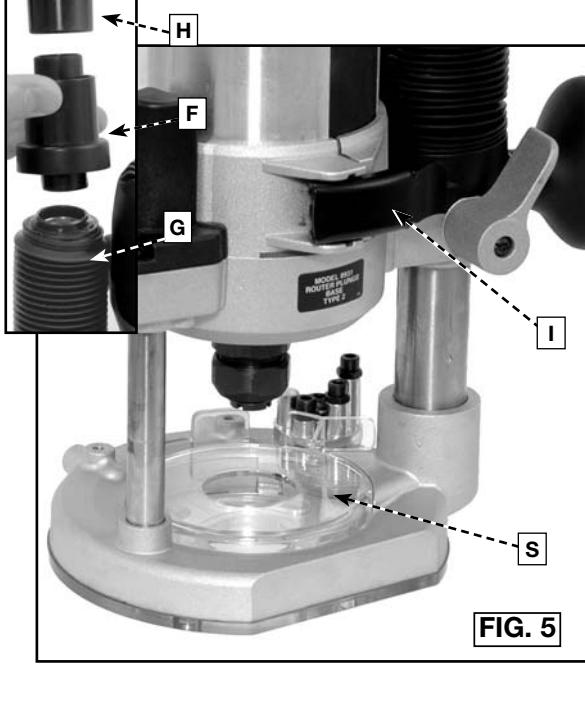

FIG. 5
- Open the clamp (I) Fig. 5 and set the motor in the base.
- Close the clamp (I) Fig. 5.
- Insert the dust extraction hose adapter (F) Fig. 5 into the dust extraction port (G) as shown.
- Insert the end of a standard vacuum cleaner tube (H) into the hose adapter (F).
NOTE: Be sure the dust shroud (S) Fig. 5 is installed into the plunge base as shown.
- Pull the lever (I) Fig. 5 toward you.